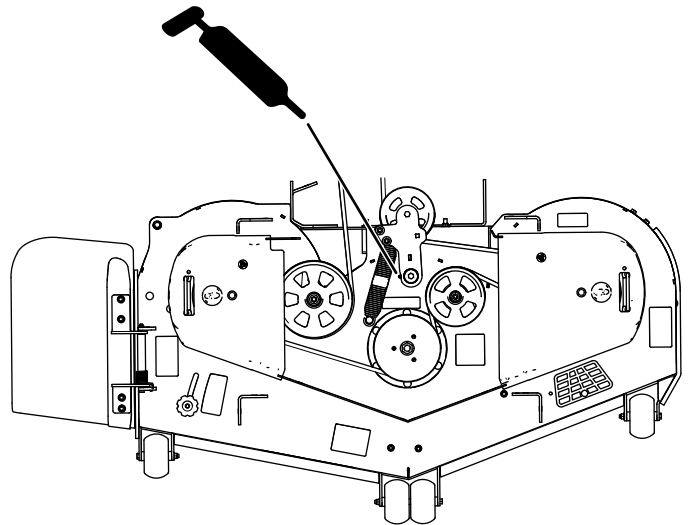

Figure 40
3. Grease the mower deck idler-pulley pivot until grease comes out the bottom (Figure 40).